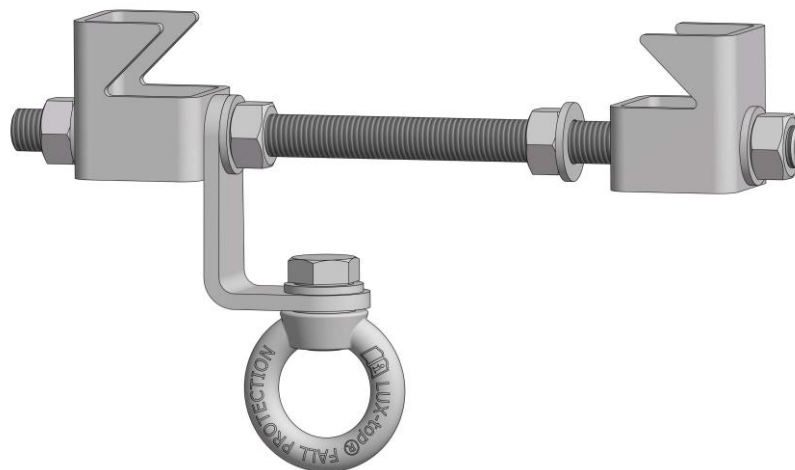

Figure 2
2. Attach second girder clamp together with the nuts and washers on the threaded rod according to *Figure 2*. (Do not tighten lock nut yet.)